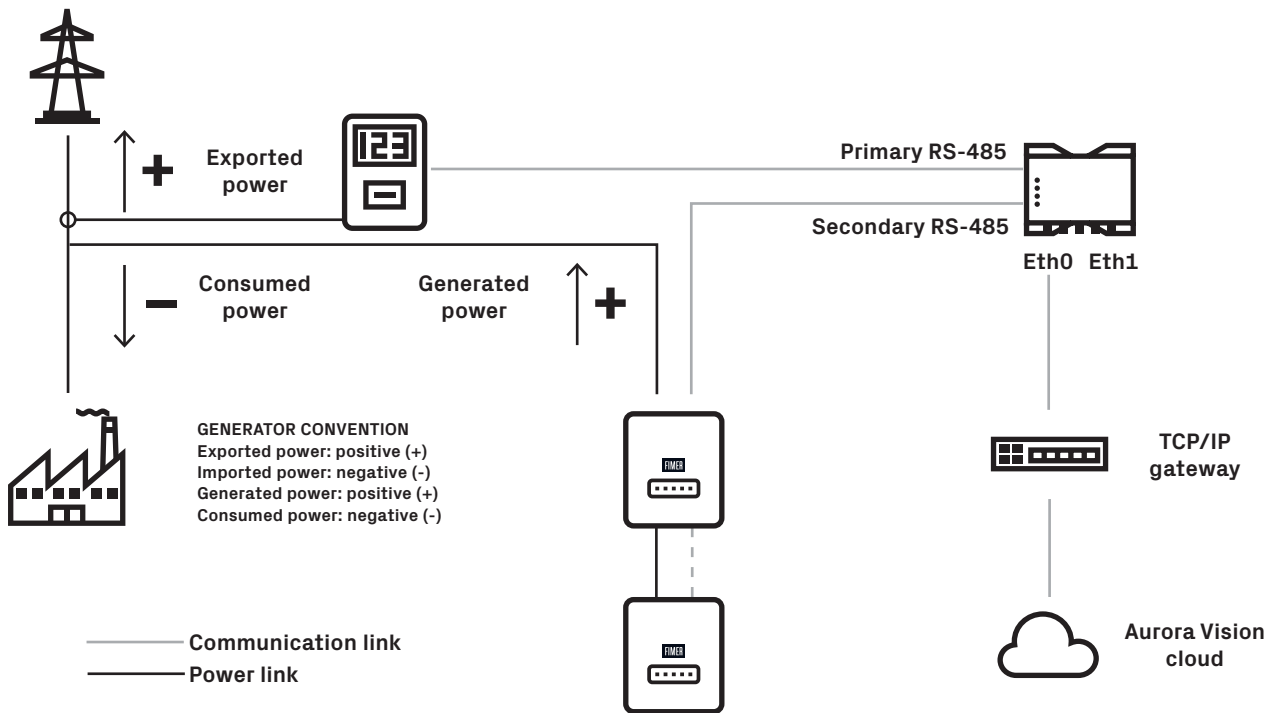

Figure 2 - Generator reference systems applied to the meter installed at the Point of Connection (PoC)
- Fig. 2 *p. 08-Generator reference systems applied to the meter installed at the Point of Connection (PoC)*